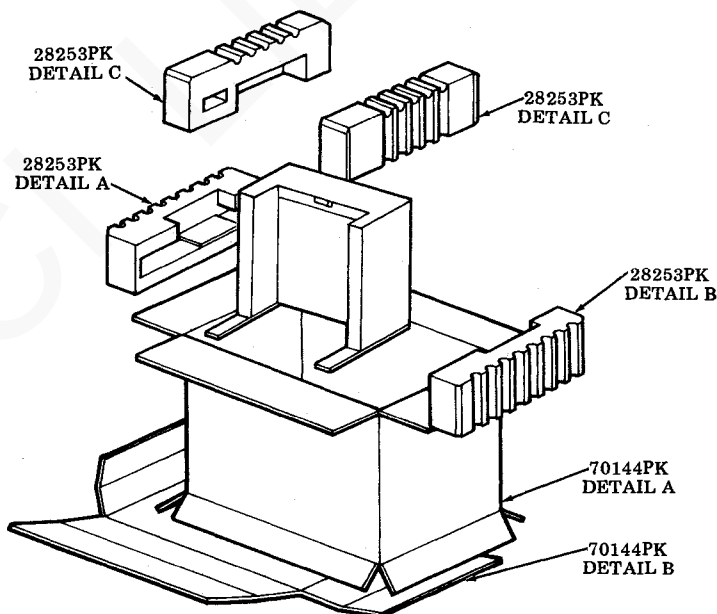

Fig. 36
- Step 7. Place a 28253PK detail on left and right top corner of the cabinet. See Fig. 36.